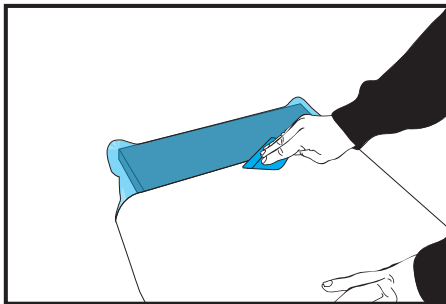
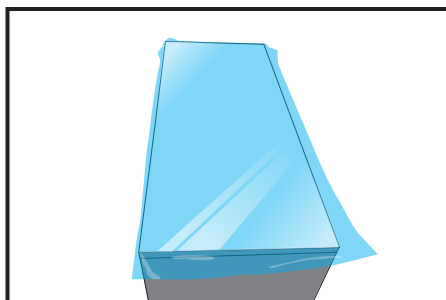
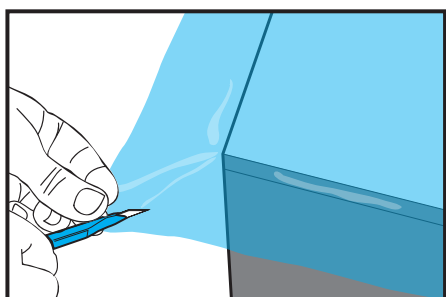

Figure 05
Figure 06
Figure 07
- › Start the application of the film from the rim of the horizontal plate of the table or tray. (FIG. 05)
- › Once the application to the horizontal surface is finished (FIG. 06), proceed with the cuttings to wrap the edges of the table.
- › Diagonally cut the film starting from the corner of the table. (FIG. 07)
- › First install the horizontal plate using the same method as described in the previous paragraph. (FIG. 05) (FIG. 06) (FIG. 07)